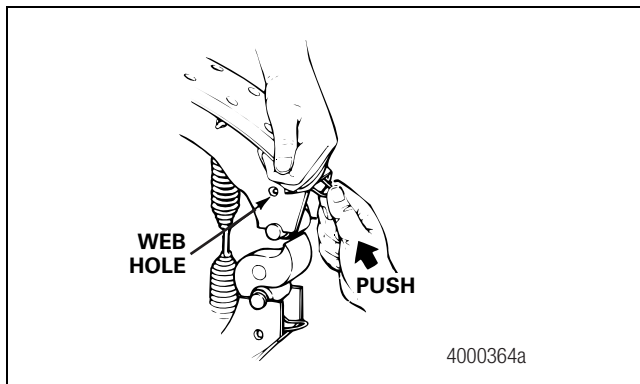

Figure 5.27
5. Push the brake shoe roller retainer into the brake shoe until the ears lock into the shoe web holes. Figure 5.27.